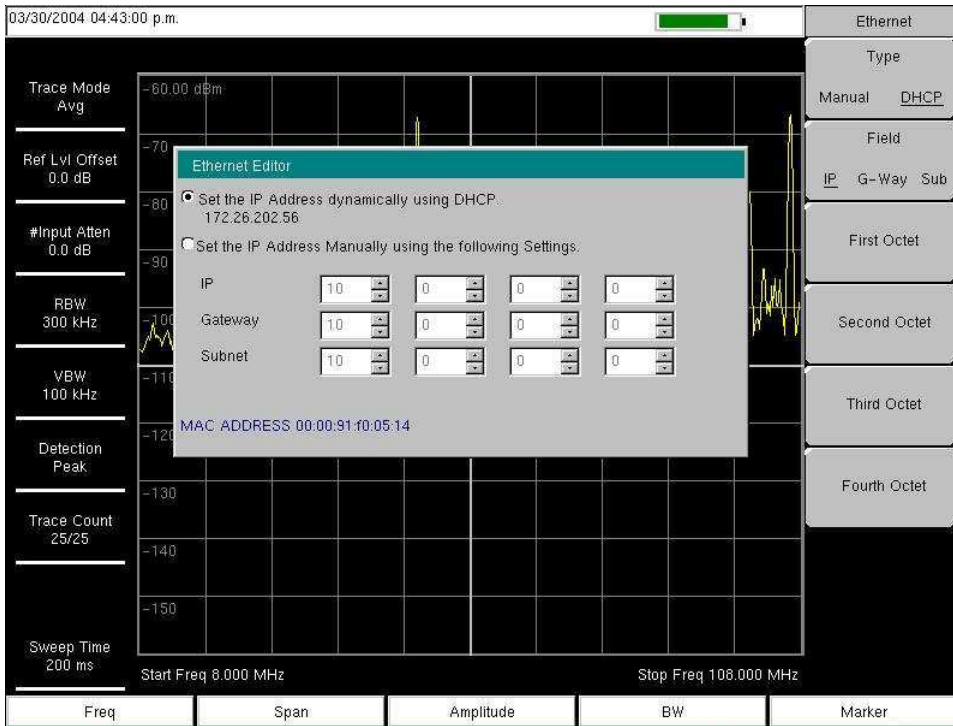

Figure C-1. IP Address Assigned Using DHCP
To display the IP address with the instrument on, press the **Shift** key, then the **System** (8) key, then the System Options submenu key and the Ethernet Config submenu key. The IP address will be displayed as shown in Figure C-1. The image on the display panel of your Spectrum Master may differ from the image shown here.